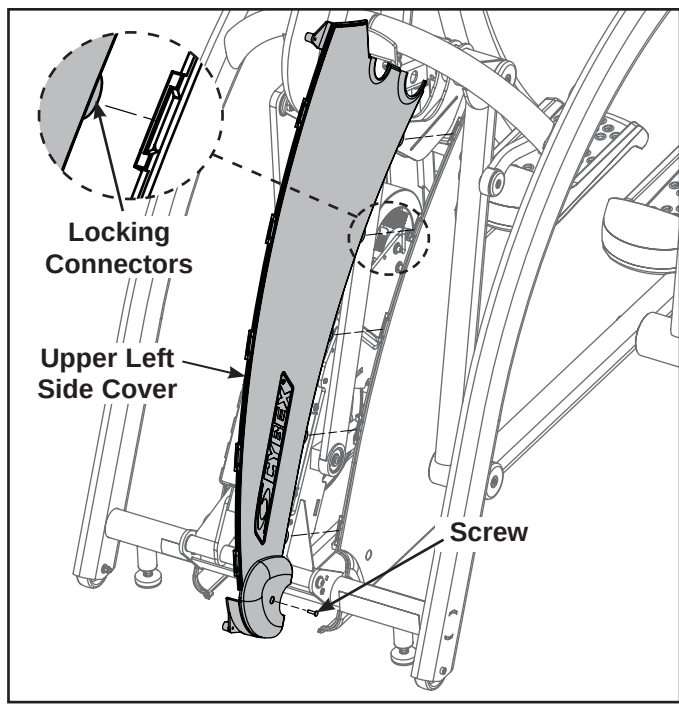

Figure 4
- A. Using a Phillips screwdriver, remove the screw securing the upper side cover (A) or (B). See Figure 4.
- A. Place the new upper side cover (A) or (B) in position. See Figure 4.